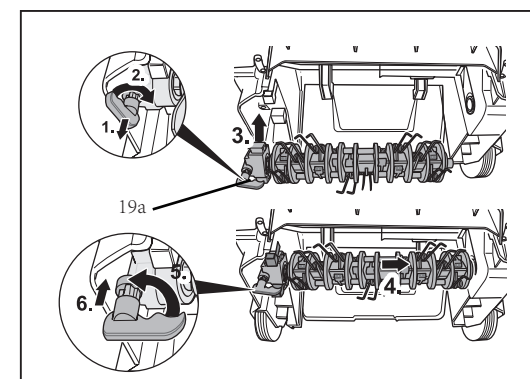

Fig. 13
1. Pull the securing lever (19a) up and turn it to the unlock position, see Fig. 13, step 1, 2.
2. Put the drum in, see Fig. 13, step 3.
3. Slide the drum to one side, ensuring both bearings align correctly, see Fig. 13, step 4.
4. Check both ends are seated correctly, turn the securing lever to its lock position, see Fig. 13, step 5, 6.